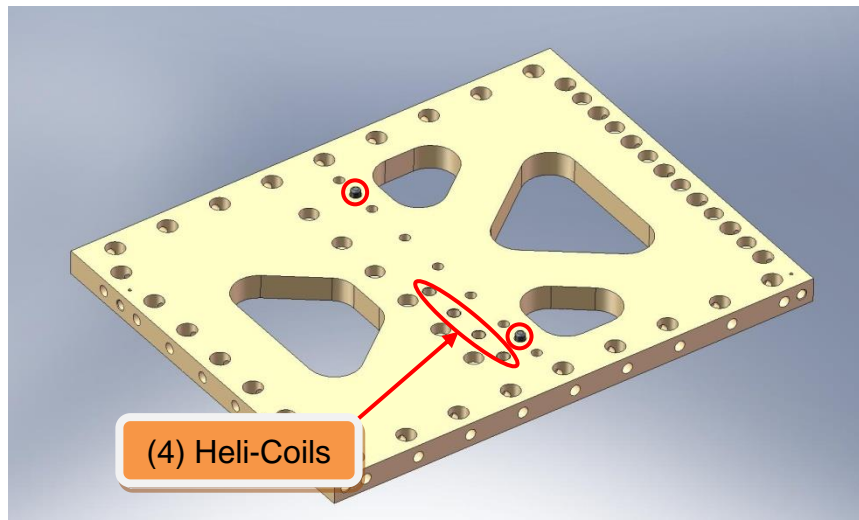

Figure 3.4. Dowel pins pressed into side of Radial Rib (D071069). Heli-Coils are installed from the same side as the pins are pressed.
- Install Heli-Coils in (3) **Rib, Rad, Flexure Out 2** plates (D071069).
- Press (2) 3/8"x.75" dowel pins into side of each of (3) **Rib, Rad, Flexure Out 2** plates (D071069) as shown in Figure 3.4. Pins should stand .25" proud of mating surface. *Do not press pins into bottom of this plate, yet!*